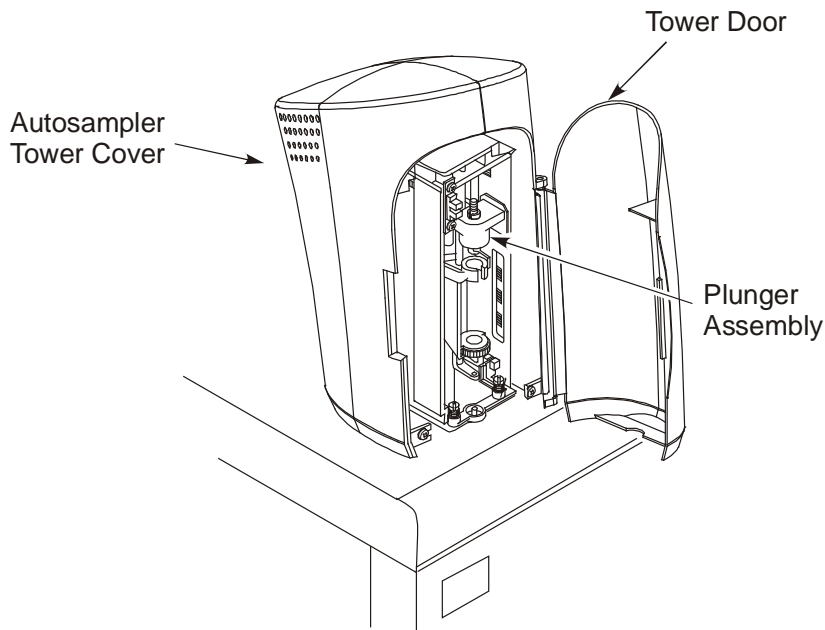
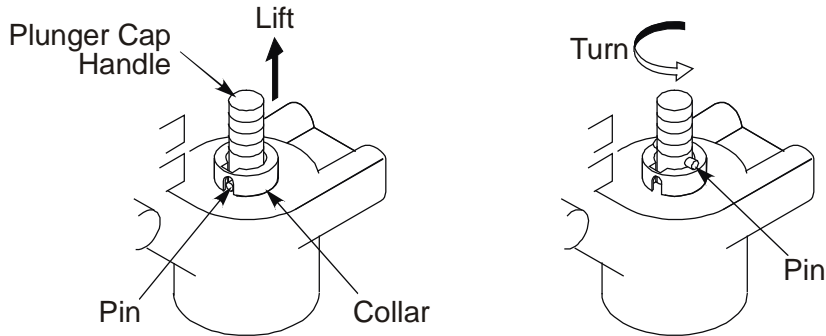

Figure 34. Autosampler tower in the park position.
Figure 35. Plunger assembly.
1. Locate the plunger assembly shown in Figure 34. Then, refer to Figure 35 as you lift up the plunger cap handle and rotate it until it rests on the collar. Then release the plunger cap handle.
Please refer to Figures 35 through 37 as you follow these steps.